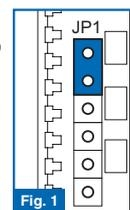

Fig. 1
To activate this function, set jumper JP1 as shown in figure 1. The relay C.NO. contact is activated on a call from porter switchboard, from an external unit and from the floor door.
1. Connect the terminal boards of modules FT3323/3, FT3323/4 and FT3323/6 together and with the terminal board of the FT4660 group using the special cables. Insert the modules FT3323/3, FT3323/4 and FT3323/6 on the relative terminal boards (figure 1).